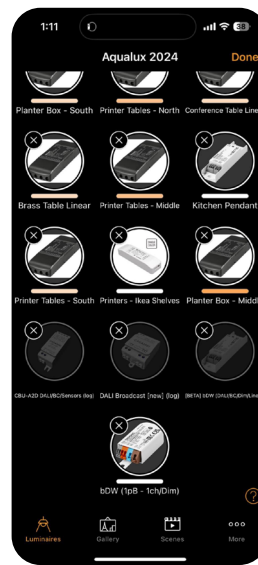

FIG. 12
8. Access the profile settings by pressing **"Edit"** in the top right corner, then select the Casambi G2's icon. The example shows the dimmer currently using the incorrect "bDW (1pB - 1ch/Dim)" profile (Fig. 12).